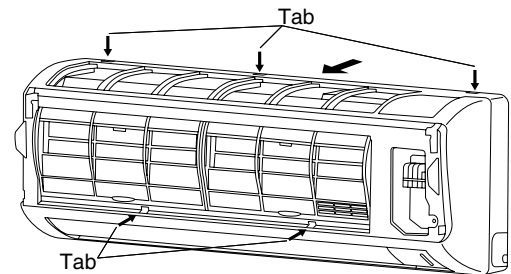

Fig. 3-24
- (3) Press the 3 tabs at the top of the grille and the 3 tabs on the front face to separate the grille from the frame. (Fig. 3-24)
- (4) Pull the grille toward you to remove it.